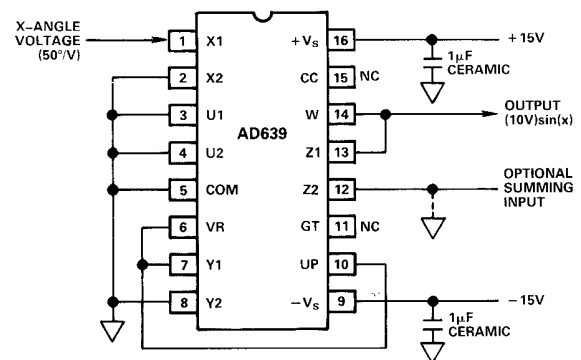

Figure 2. Connections for the Sine Mode with Amplitude Preset to 10V
The AD639 can generate either (1) a low-distortion continuous sine wave from a repetitive triwave input or (2) a high-accuracy sine function for use in computational applications. In most cases, the choice of preset or externally-controlled amplitude will make little difference to distortion or accuracy, and both methods are used in this section. In all of the *normal* modes, the Z2 input can be used either to sum a further signal to the output (or introduce an optional output offset trim). The denominator is set to unity by making  $y=90^\circ$ , using the +1.8V output. Figure 2 shows typical connections. The 10V preset is selected, using  $V_r$  as a control input to UP, and the ideal output is  $(10V)\sin(x)$ . In practice, five basic types of error arise:
1. **X-angle scaling error:** The amount by which the angle generated for each volt of X-input differs from  $50^\circ$ . In triwave-to-sinewave (CW) applications this introduces odd-order harmonic distortion, and is indistinguishable from an incorrect triwave amplitude.